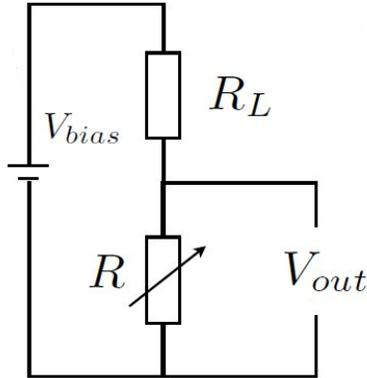

Figure 1: Bolometer circuit diagram
- d Fig.1 shows the electrical configuration of the bolometer, where $V_{\text{bias}} = 1.5V$ and a load resistance $R_L = 10^7 \Omega$. Iteratively solve the load curve expression in Part c to obtain the voltage across the bolometer pixel, and hence the power dissipated by the bolometer under this approximation.